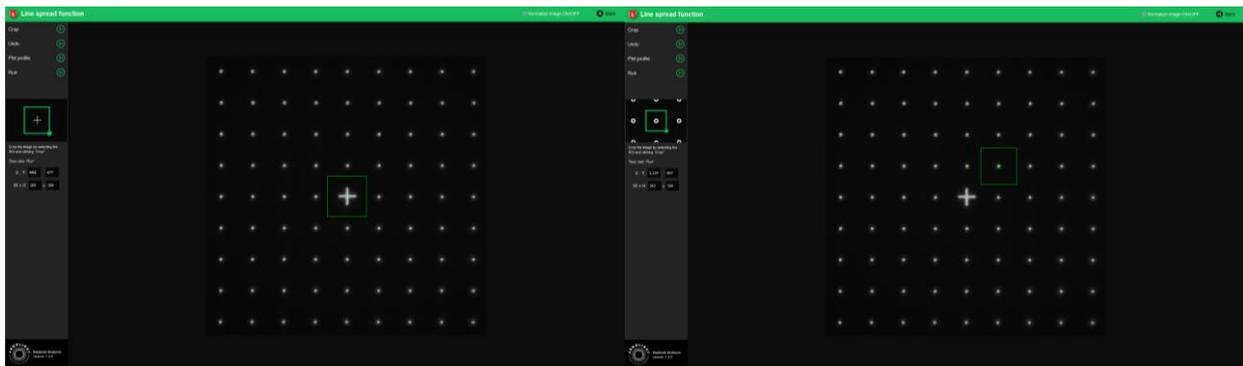

Figure 2: Crop windows to select a single cross (left) and a single ring (right).
e) Select within a region of interest (ROI) a single cross or ring and click on “Crop” to crop the image (cf. Figure 2).